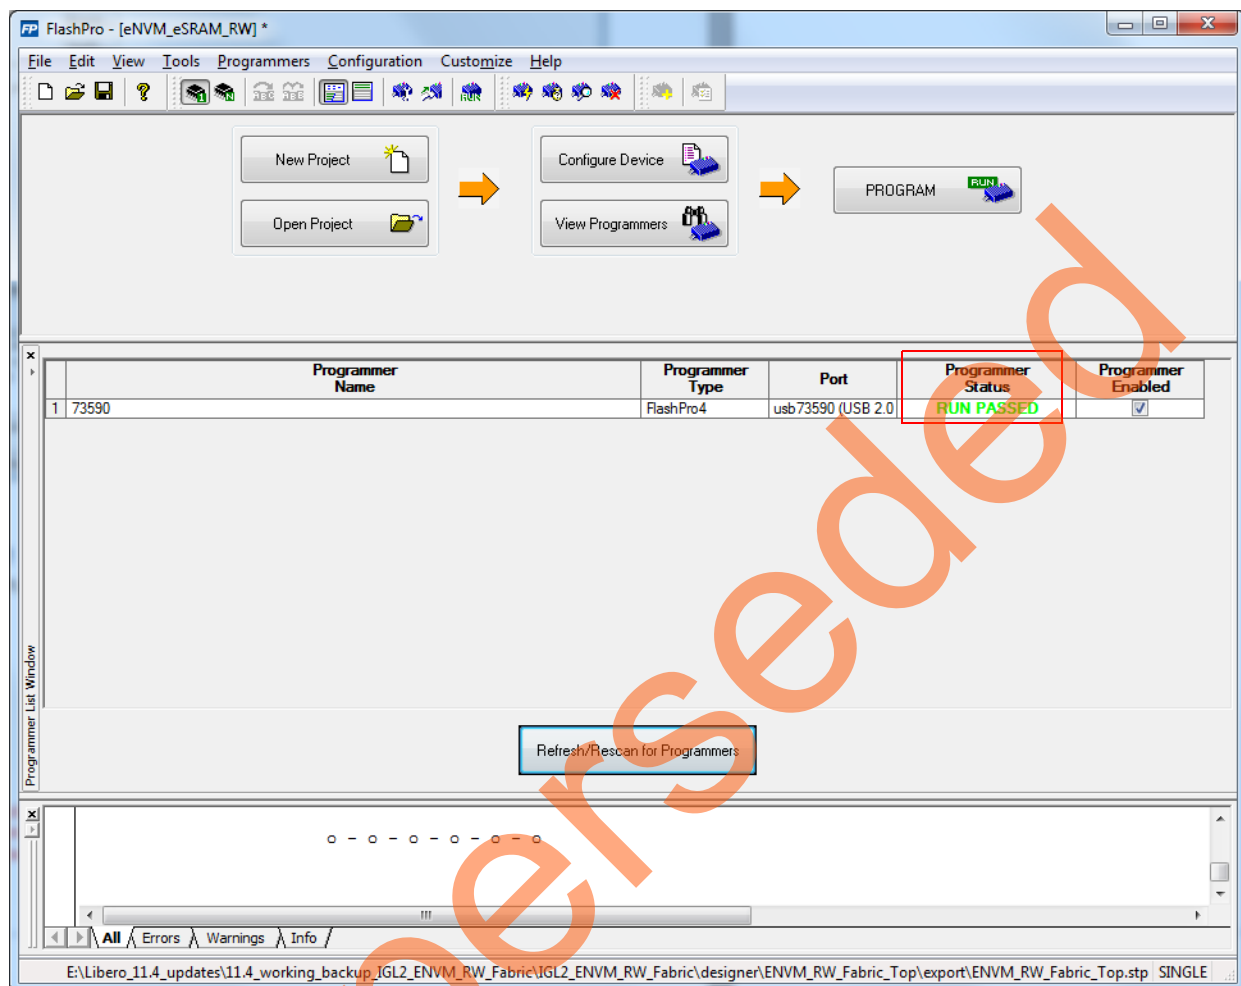

Figure 20 • FlashPro - RUN PASSED
4. Click **PROGRAM** to start programming the device. Wait until the Programmer Status is changed to **RUN PASSED** (highlighted in Figure 20).